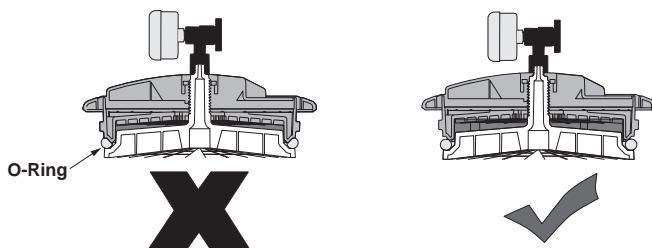

Figure 9. Ensure O-Ring is Uncompressed
1. Start with the lid completely off the filter to ensure the O-ring is uncompressed. Fig 9